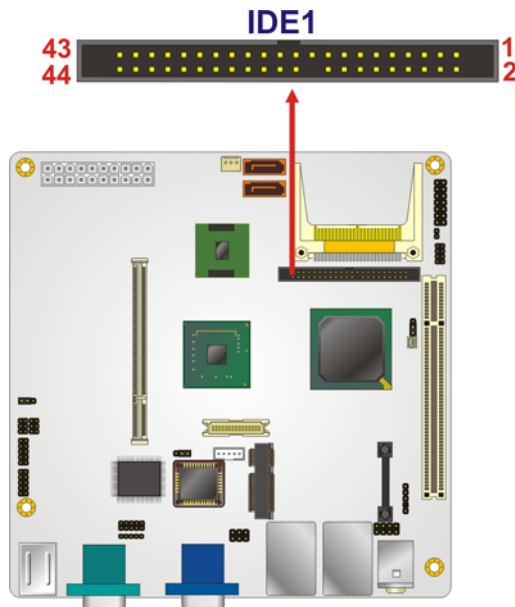

Figure 4-9: IDE Device Connector Locations
- CN Location:** See Figure 4-9